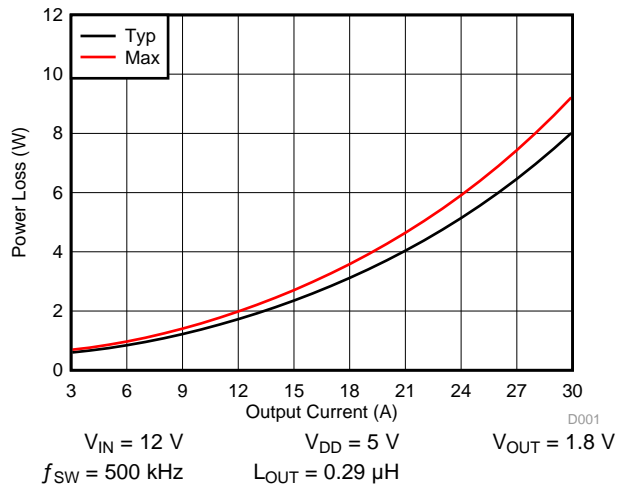
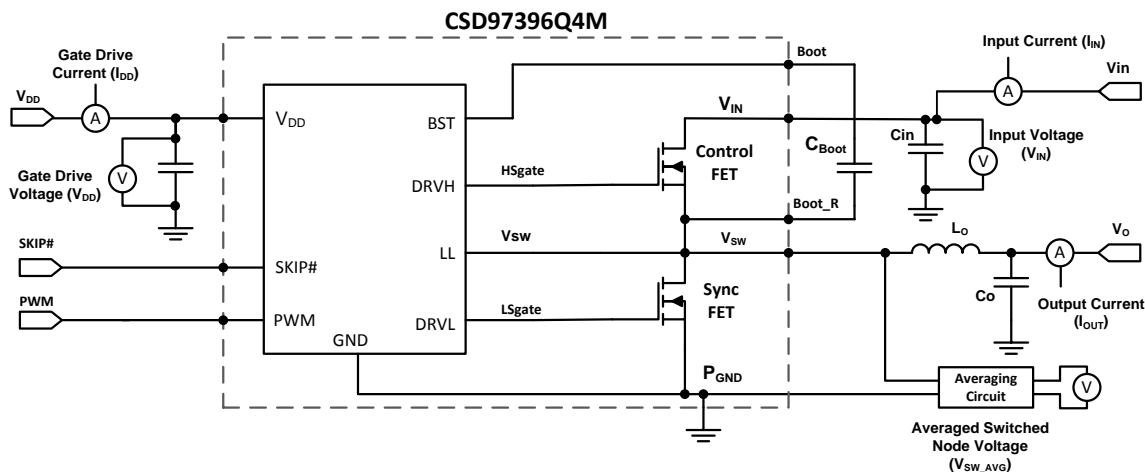

Figure 4. Power Loss vs Output Current
Figure 14. Power Loss Test Circuit
MOSFET centric parameters such as $R_{DS(ON)}$ and Q_{gd} are primarily needed by engineers to estimate the loss generated by the devices. In an effort to simplify the design process for engineers, Texas Instruments has provided measured power loss performance curves. Figure 4 plots the power loss of the CSD97396Q4M as a function of load current. This curve is measured by configuring and running the CSD97396Q4M as it would be in the final application (see Figure 14). The measured power loss is the CSD97396Q4M device power loss which consists of both input conversion loss and gate drive loss. Equation 1 is used to generate the power loss curve.
The power loss curve in Figure 4 is measured at the maximum recommended junction temperature of $T_J = 125^\circ\text{C}$ under isothermal test conditions.
- Typical Power Loss at 20 A = 3.71 W (Figure 4)